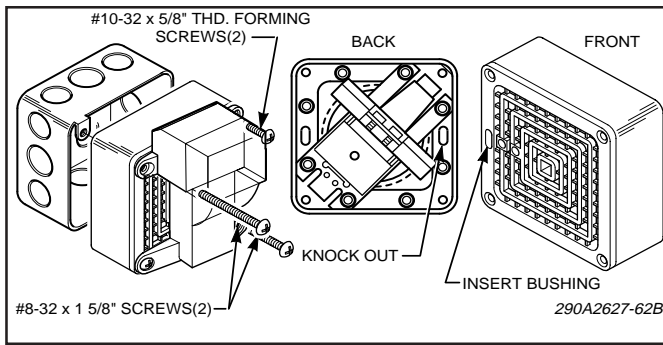

Figure 5. 450D Series D Horn Mounting.
3. CPG Model 450D Horn Mounting (see figure 5).
See figure 5. Using a small blunt tool, such as a pin punch or screwdriver, knock out the slot in the horn housing from the rear. Insert the supplied nylon bushing into the slot from the front of the horn as shown.